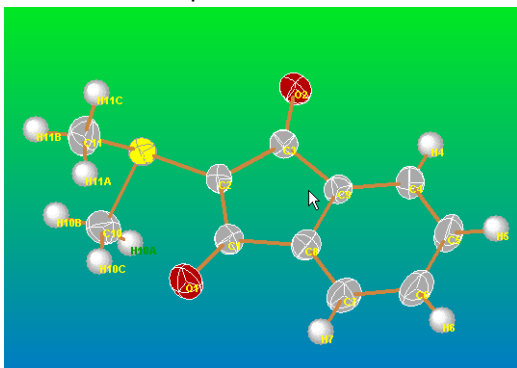

Figure 9.49 - Thermal ellipsoids with large hydrogen atoms
3. If the hydrogen atoms in Figure 9.49 are large, change their size.